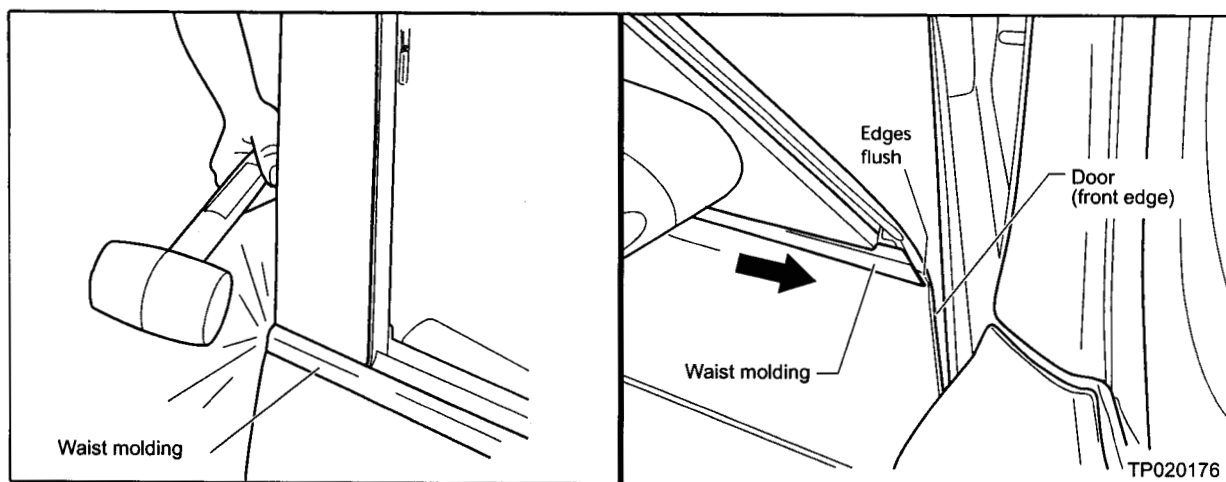

Figure 2
5. Move the waist molding at the bottom of the window frame forward (see figure 2).